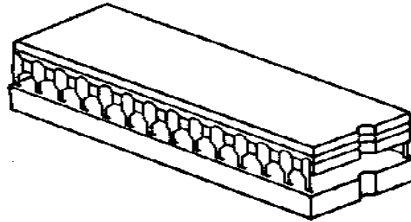

Figure A.4: Inserting Pins in Other Side of Socket
4. Insert the pins on the other side of the PROM or PLD chip into holes on that side of the socket (see Figure A.4).